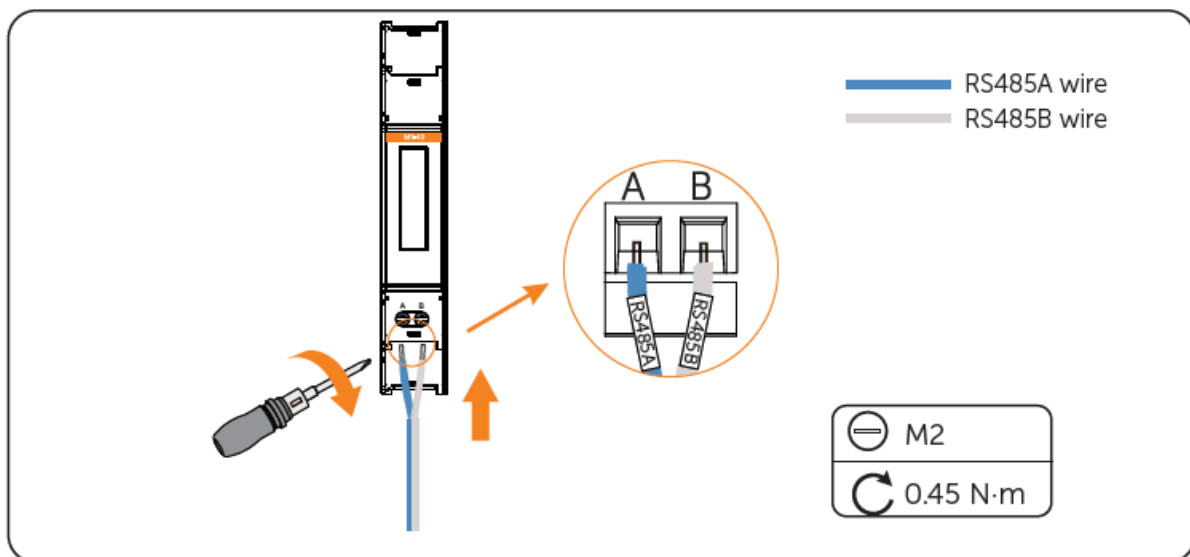

Figure 6-3 Connecting communication cables
3. **Communication Cable Connection:** Connect the RS485A and RS485B cables for communication. See Figure 6-3.